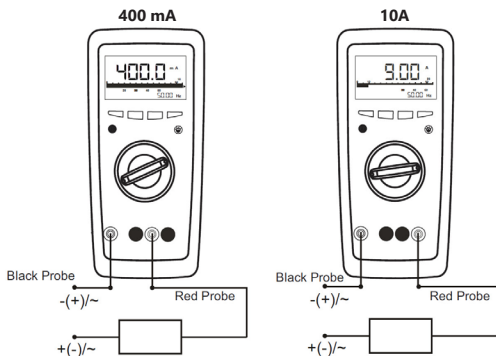

Fig. 2 Current Measurement
- 3 Connect the measuring instrument in series to the load as shown in figure 2 (without contact resistance).